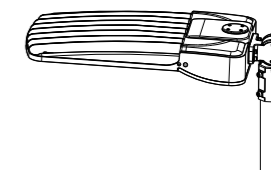

Figure 14
- Step 2: Place the bracket into the pole and lock the four bolts. (Figure 14)